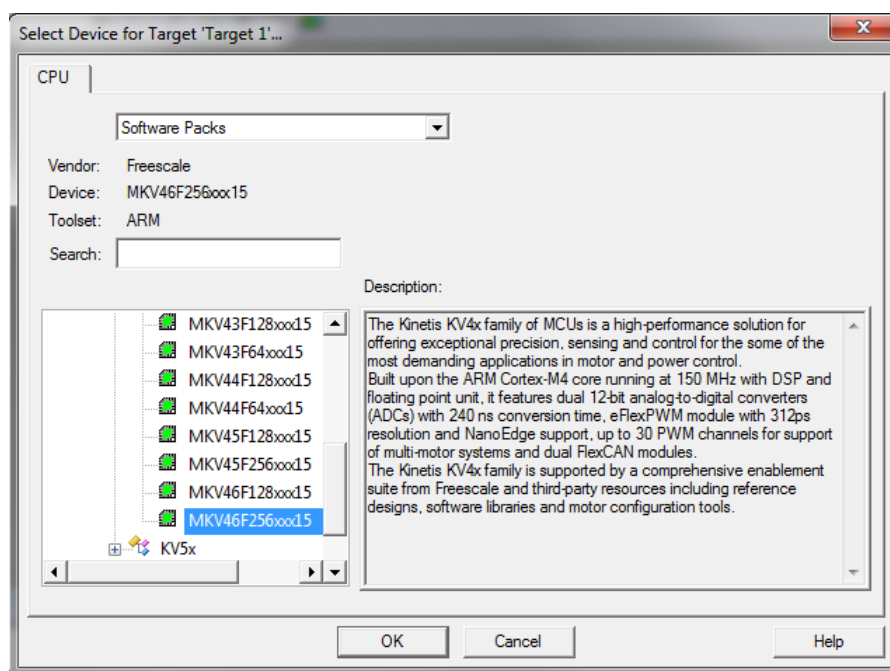

Figure 1-25. Select Device dialog
7. Click the MKV46F256xxx15 node, and then click OK. See Figure 1-25.